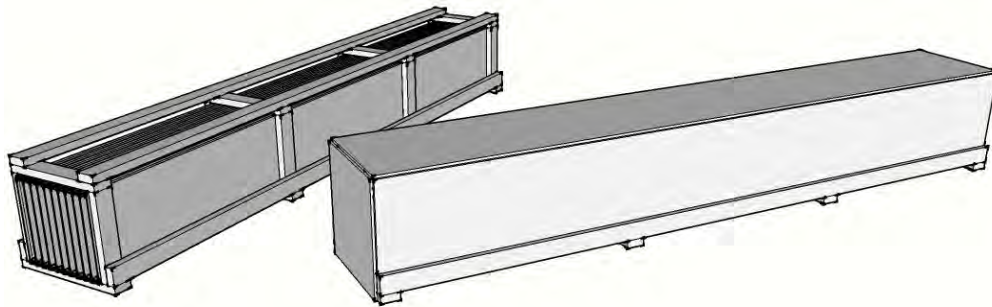

Figure 1: Packaging for panels (open crate and completely enclosed crate options)
- Perma-Lok panels are shipped in bundled units of approximately fifty panels. Panels are stacked on edge and are packaged with wood blocking in an open crate design. Space is provided under crates for access by forks of lift truck or inserting lifting slings/straps when offloading by crane (*Figure 1*).